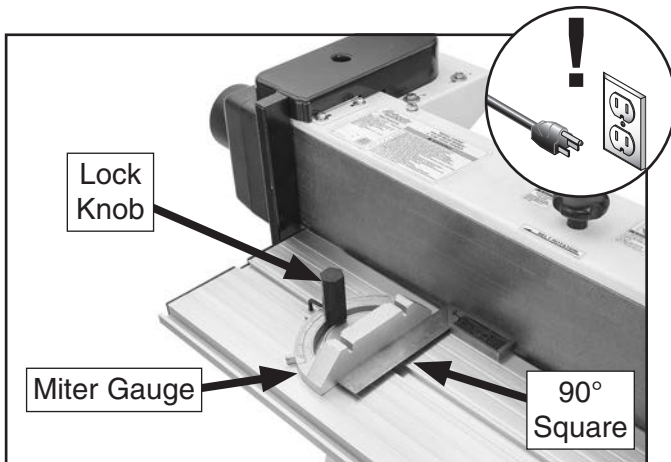

Figure 53. Squaring miter gauge to platen.
4. Set one edge of 90° square on main table surface and other edge against face of platen, as shown in **Figure 53**.